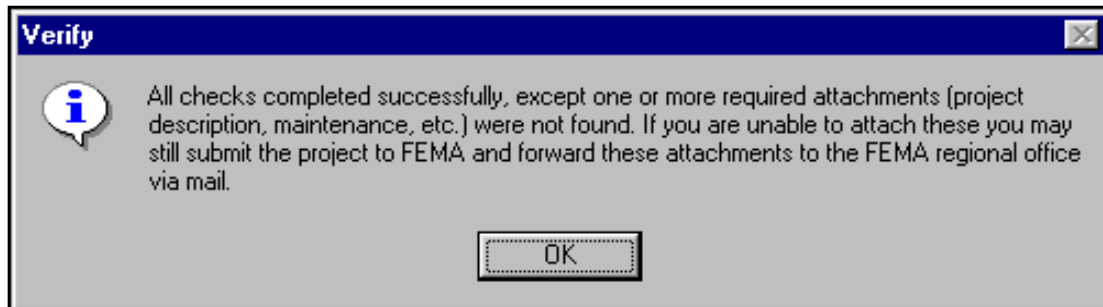

Figure 8-12: Verification Complete Message
6. Click the OK button. A message that all checks were completed successfully is displayed (Figure 8-12).